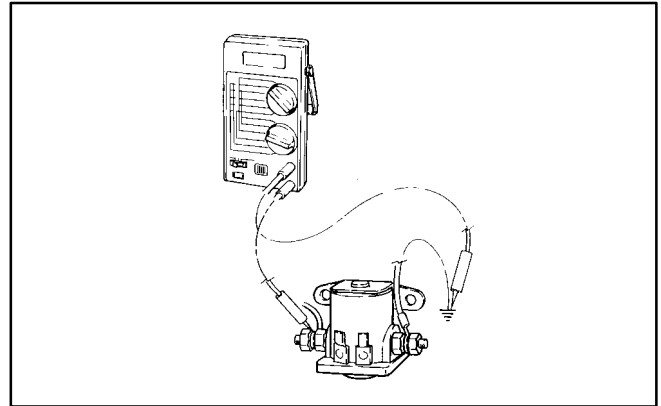

FIGURE 8-12. STARTER VOLTAGE CHECK
1. Connect a voltmeter between the output terminal on the start relay (opposite the BAT terminal with the starter motor lead connected) and ground. See Figure 8-12.